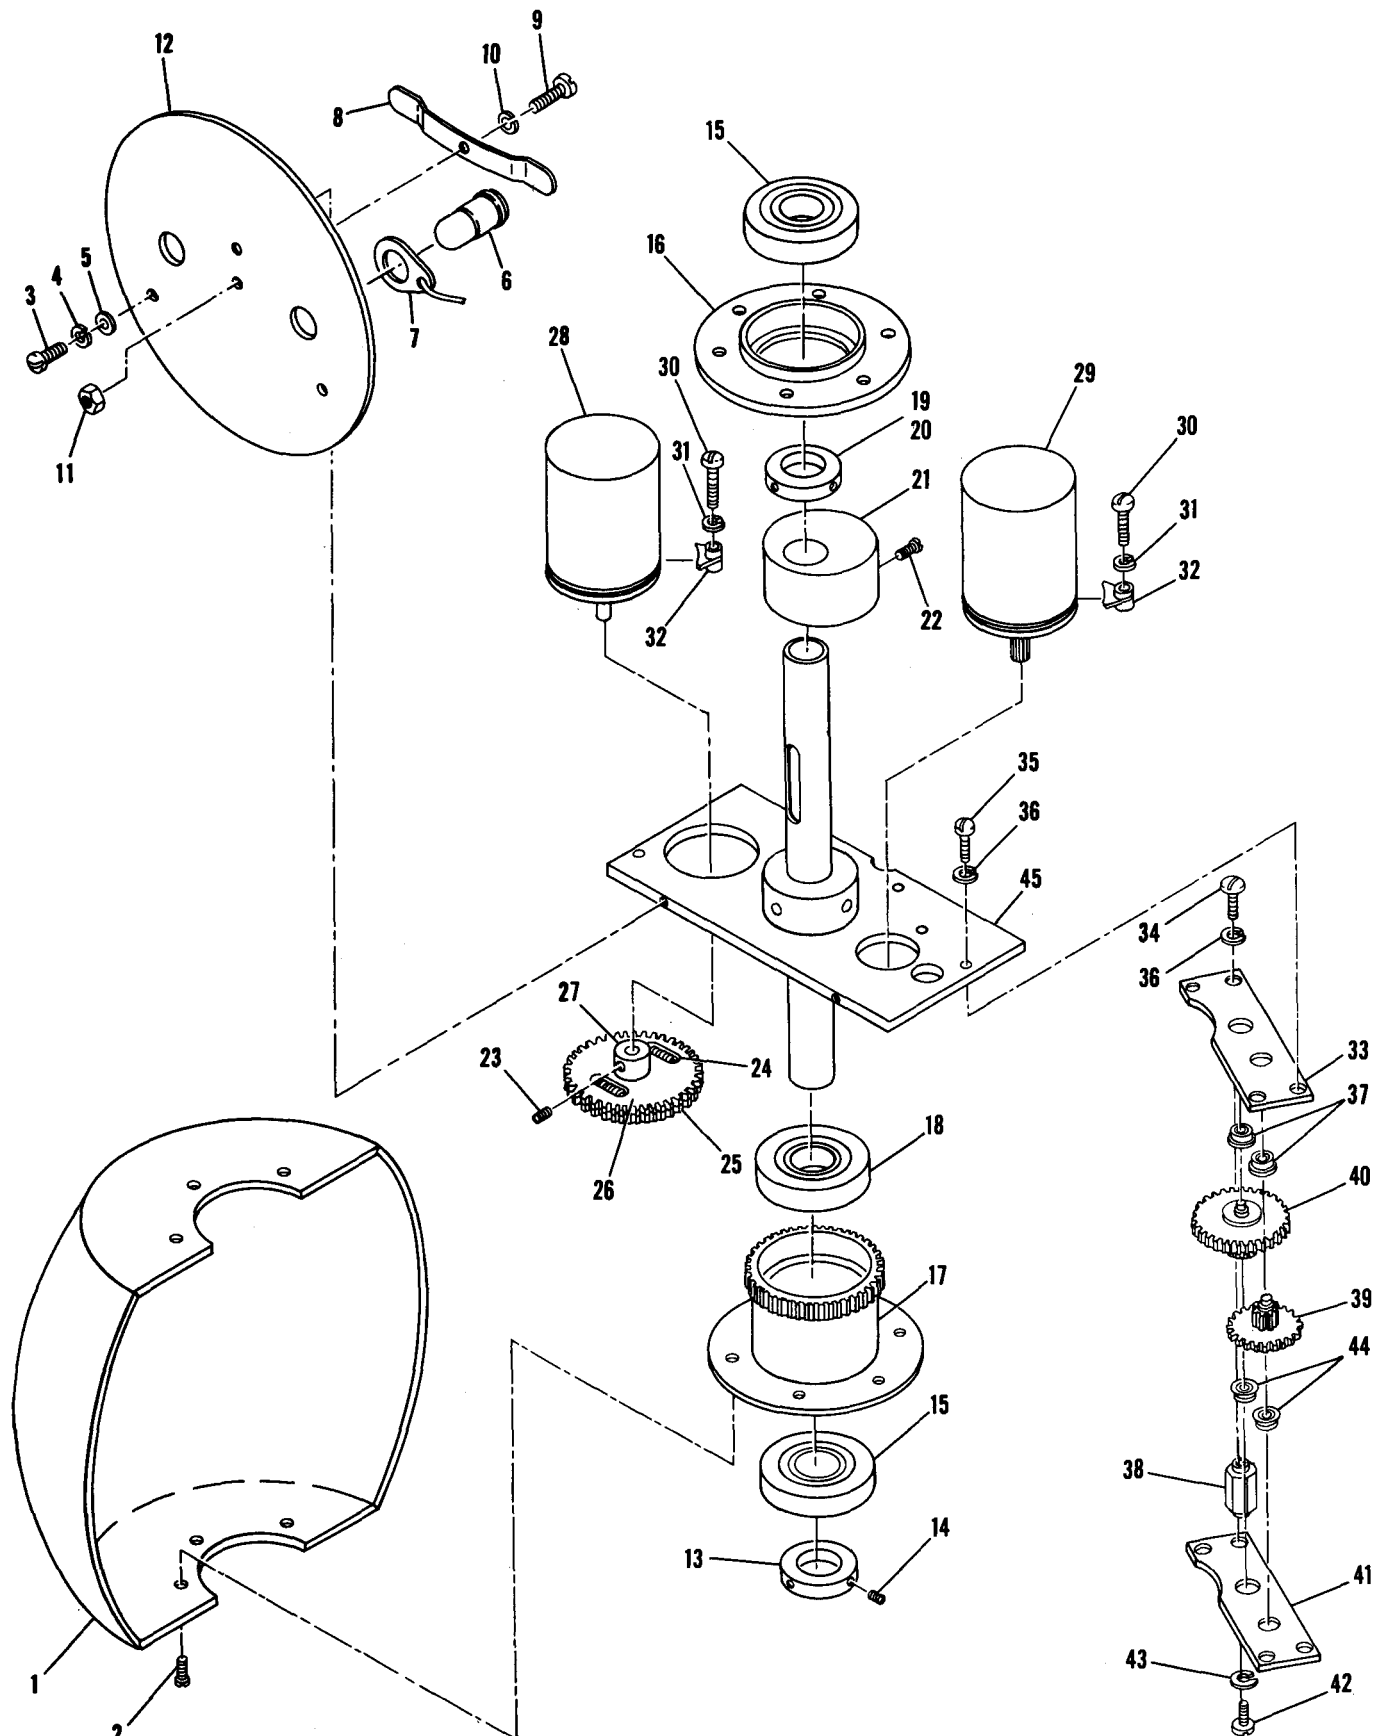

Figure 2-6. Pitch Servo and Spheroid Assembly.
Pitch servo and spheriod assembly (fig. 2-6) is wired to terminal board (40, fig. 2-6). The assembly can be disassembled without removing wires, except when disassembling bearings (15), end bell (16), collar (20), and counterweight (21).
(1) Remove screws (3, fig. 2-6) and washers (4 and 5) and remove spheroid lighting assembly.
(2) Remove lamp (6) and electrical contact (7).
(3) Remove screw (9), washer (10), and nut (11), and remove lug (8).
(4) Remove reflector (12) and loosen setscrew (14) securing shaft collar (13) and remove shaft collar and bearing (15).
(5) Remove end bell (16), bearing (15), spur gear (17), and bearing (18).
(6) Loosen setscrew (20) and remove collar (19).
(7) Remove screws (22) and remove counterweight (21).
(8) Remove setscrew (23) and remove spur gear assembly.
(9) Remove spur gears (25 and 26) and gear shaft (27). Remove screws (30), washers (31), and clamps (32) and remove tachometer motor (28).
(10) Remove screws (30), washers (31), and clamps (32), and remove control synchro (29).
(11) Remove bearing plate (33) from gear assembly by removing screws (34 and 35) and washer (36).